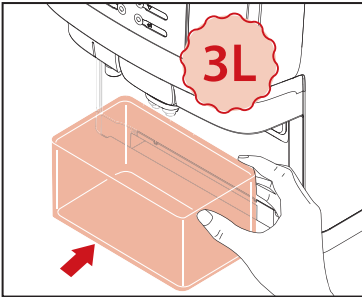

Fig.19
3. Remove the drip tray and place a 3 liter / 3 quart container (See Fig.19) under the outlets, then press **ENTER** .